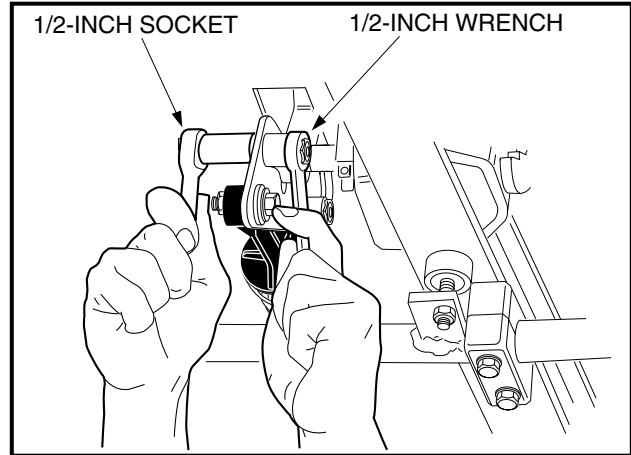
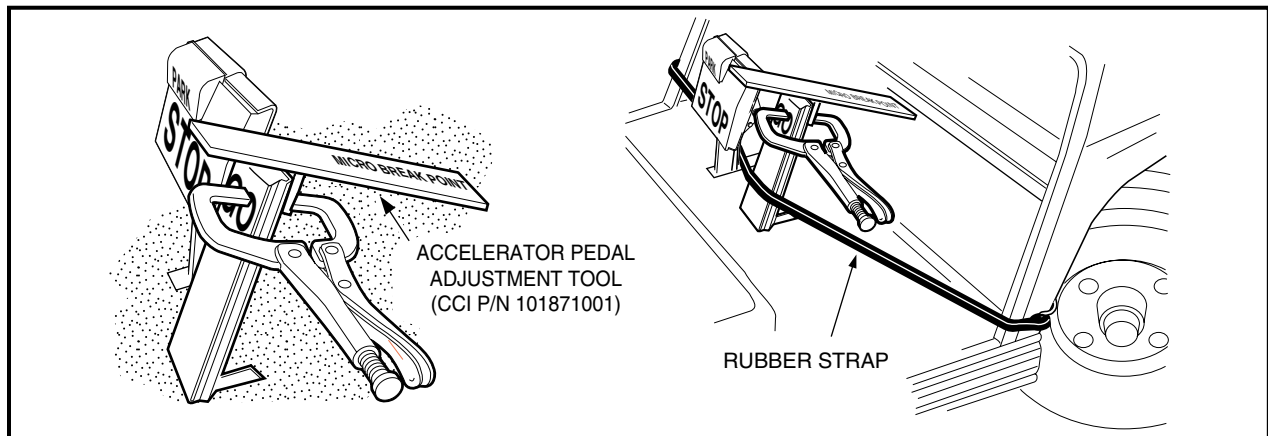

Figure 5-18 Accelerator Pedal Height Adjustment
Figure 5-19 Accelerator Pedal Height Adjustment
- 4.1. Loosen the nut and bolt (Figure 5-18, Page 5-19) securing the accelerator pedal to the pivot plate. Clamp the accelerator pedal adjustment tool (CCI P/N 101871001) to the accelerator pedal, with the end marked *accelerator pedal height* closest to the floorboard. Depress the accelerator pedal until the end of the tool rests against the floorboard; pedal height should be 5-5/8 inches (14.3 cm). Use a rubber strap to hold pedal in position against the floorboard and then tighten nut to 26 ft-lb (35.3 N·m) (Figure 5-19, Page 5-19).
- 4.1. Loosen the nut and bolt (**Figure 5-18, Page 5-19**) securing the accelerator pedal to the pivot plate. Clamp the accelerator pedal adjustment tool (CCI P/N 101871001) to the accelerator pedal, with the end marked *accelerator pedal height* closest to the floorboard. Depress the accelerator pedal until the end of the tool rests against the floorboard; pedal height should be 5-5/8 inches (14.3 cm). Use a rubber strap to hold pedal in position against the floorboard and then tighten nut to 26 ft-lb (35.3 N·m) (**Figure 5-19, Page 5-19**).
- 4.1. Loosen the nut and bolt **(Figure 5-18, Page 5-19)** securing the accelerator pedal to the pivot plate. Clamp the accelerator pedal adjustment tool (CCI P/N 101871001) to the accelerator pedal, with the end marked *accelerator pedal height* closest to the floorboard. Depress the accelerator pedal until the end of the tool rests against the floorboard; pedal height should be 5-5/8 inches (14.3 cm). Use a rubber strap to hold pedal in position against the floorboard and then tighten nut to 26 ft-lb (35.3 N·m) **(Figure 5-19, Page 5-19)**.